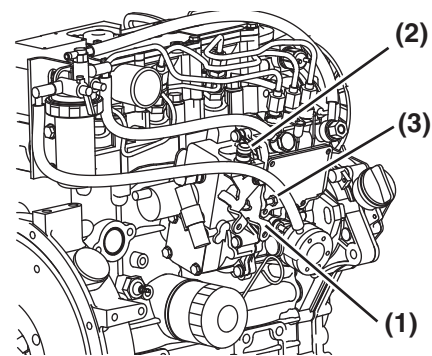

Figure 5-11
1. Check that the governor lever (**Figure 5-11, (1)**) makes firm contact with the high idle stop (**Figure 5-11, (2)**) and the low idle speed limit screw (**Figure 5-11, (3)**) when the engine speed control is in the full speed or low idle speed positions.